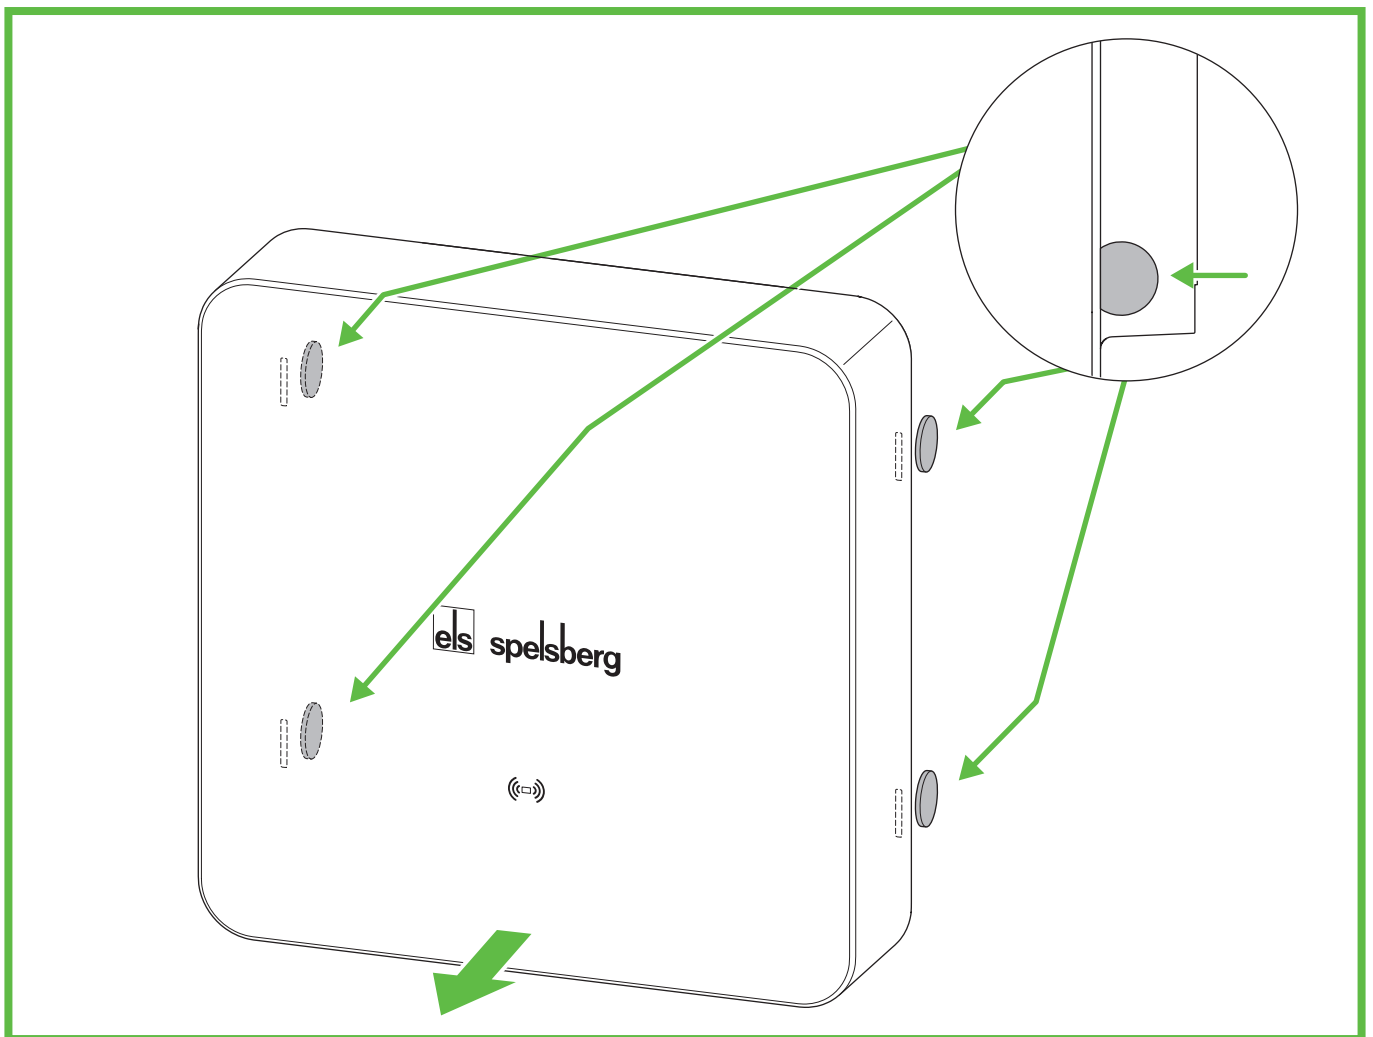

Abb. 21: Removing the design cover
- ▶ Unlock the design cover with the chips (Abb. 21). To do this, insert the chips on the back as far as they will go into the release openings provided.